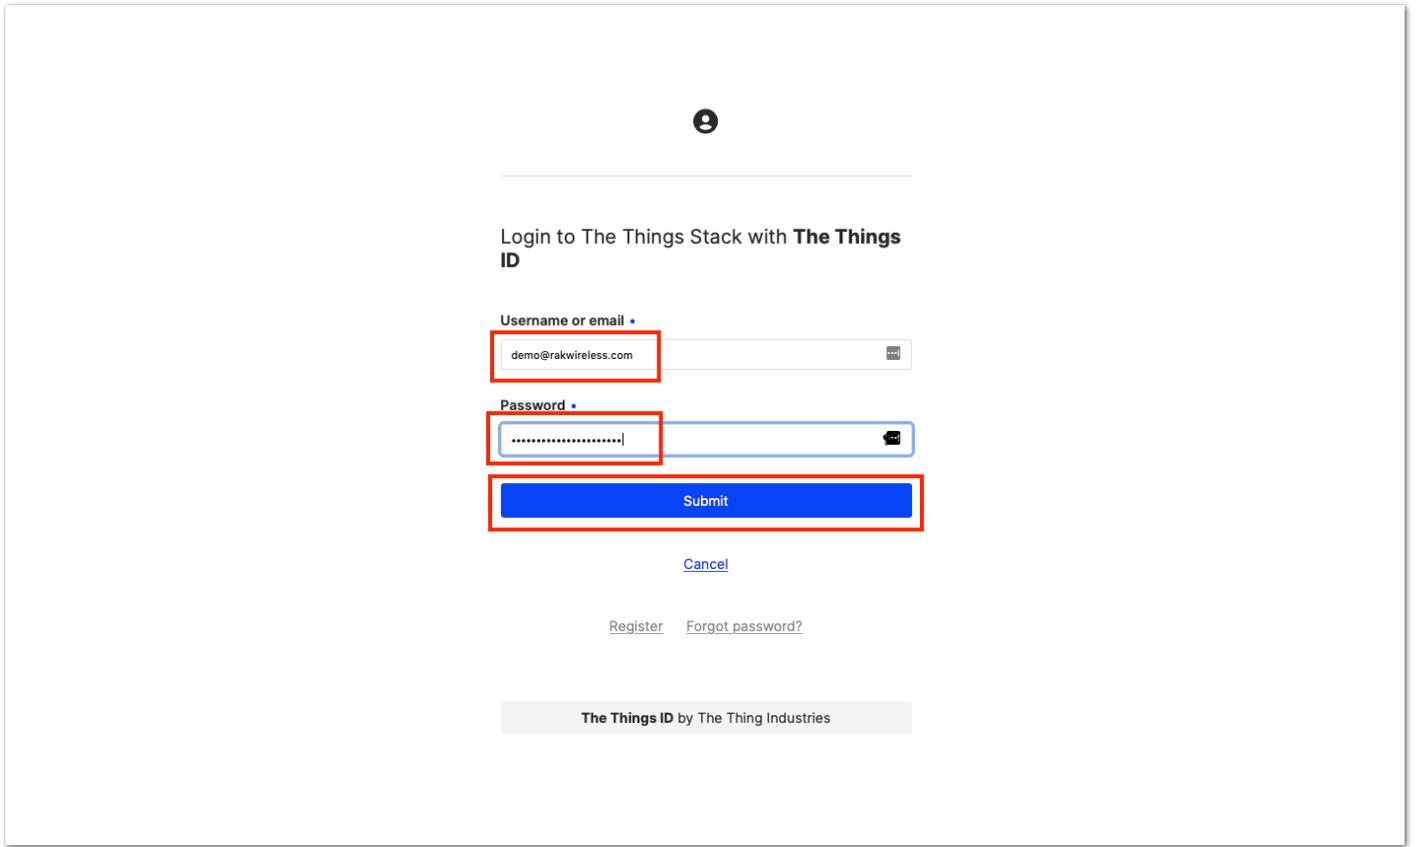

Figure 42: Logging in to TTN platform
4. After creating an account, log in on the platform using your username/email and password then click **Submit**, as shown in **Figure 42**.